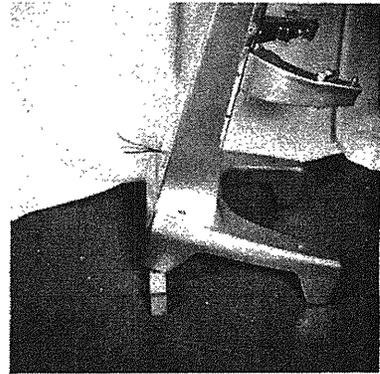

Fig. 8-2
- B. Tilt the mixer forward and block up the back legs 3-1/2" to 4" (Fig. 8-2). This helps to prevent transmission grease from leaking at the motor opening.